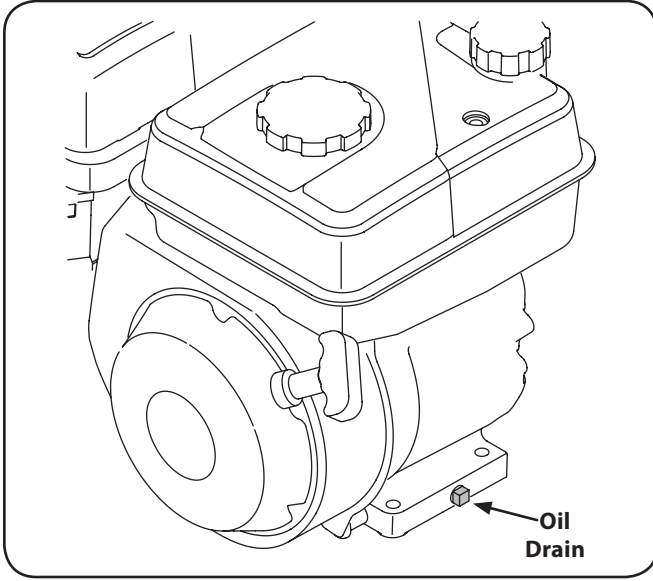

Figure 6-1
2. Remove drain plug and allow oil to drain into a suitable container. See Fig. 6-1.